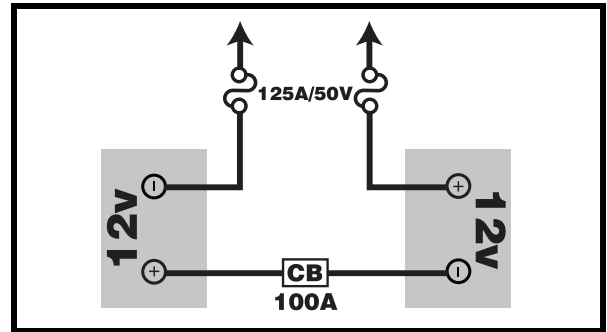

Figure 13A. Battery Wiring Diagram
7. Place a new battery in each battery well. Face the battery terminals of each battery away from the seat post. **See figure 13A.**